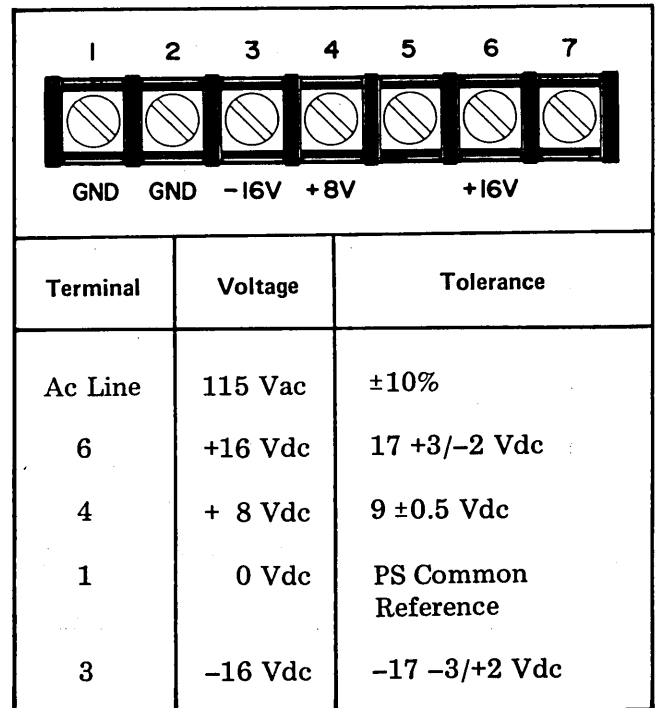

Figure 6-2 – Power Supply Module Voltage Test Points – BS1
6.06 The procedure which follows will assist the user in checking and adjusting the power supply should it be necessary. The user will need a digital multimeter (DMM), e.g., Fluke 8020A or equal. Refer to Figure 6-2.
6	Check each of the other voltages tabulated in Figure 6-2 are in tolerance.